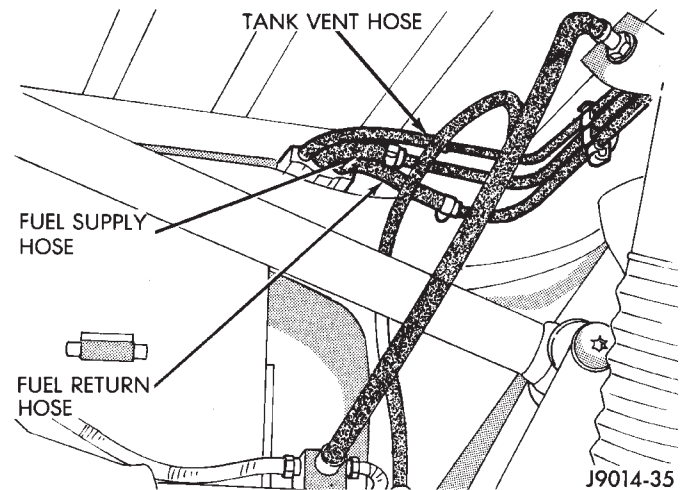

Fig. 6 Fuel Tank Hoses—YJ Models
- (6) Disconnect fuel tank vent hose from vent tube. Disconnect fuel supply and return hoses from tubes (Fig. 6).